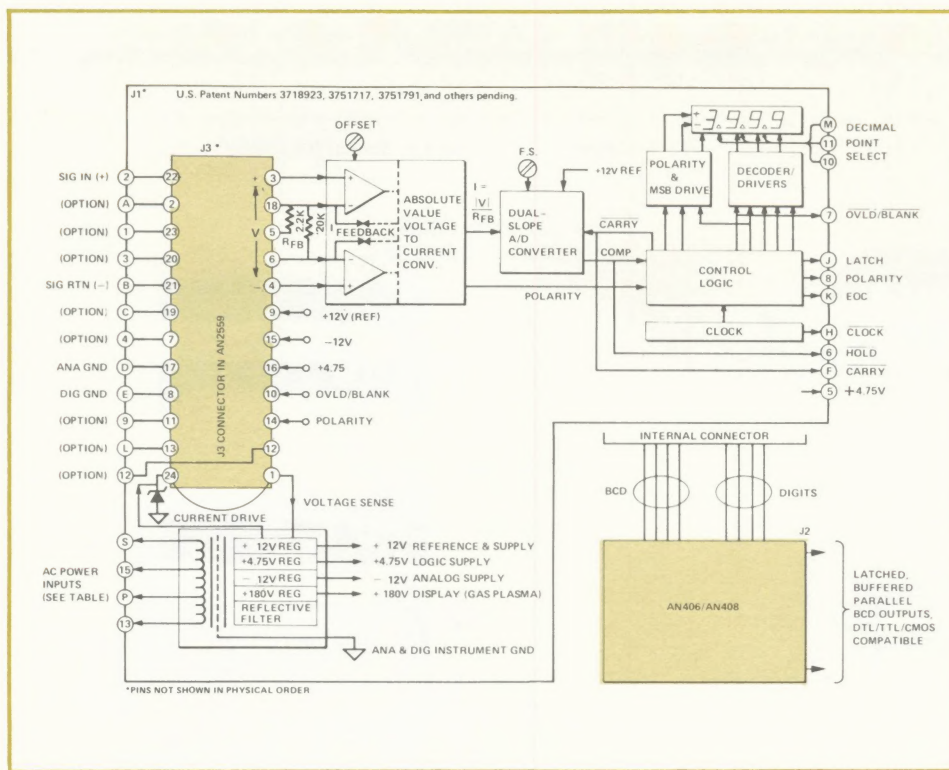
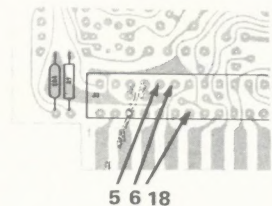

Figure 2. Simplified Schematic Diagram of AN2559.
Figure 6. PC-Board Scaling Connections
As shown in Figure 2, the AN2559 contains a floating true differential front end; an absolute-voltage-to-current converter; a dual slope ratio-metric, current-to-count integrating analog-to-digital converter; clock-driven logic control circuits, decoders, drivers, and displays; and regulated power supplies derived from secondary windings of the universal transformer.
Signal input to connector J1 is conditioned by arbitrary signal conditioning on the analog option card inserted in internal connector J3, resulting in a potential difference (V) at J3, Pins 3 and 4, connected to the non-inverting inputs of the differential input amplifiers. The conditioned signal input (V) develops a unidirectional signal current (I) whose magnitude depends on the value of the selected feedback resistance (R_{FB}), according to the simple Ohm's Law formula shown in Figure 2. The signal current linearly charges a high quality, low leakage, integrating capacitor during the signal integration phase of the dual-slope conversion. The current generation circuit also includes the polarity sensing for display.
With a 20,000 Ω feedback resistor (R_{FB}) connected as shown in Figure 2, the DPI is normally calibrated at the factory for a full-scale range of 4 volts/4,000 counts. A thermally tracking internal resistor (2,200 Ω) may be connected in parallel with the 20,000-ohm resistor by connecting pins 5 and 6 on J3. See Figure 6. The parallel resistance of 2000 ohms provides the user-selectable sensitivity of 100mV/1,000 counts (100 μ V/count).
To hold a displayed reading, gate a HOLD command (the comparator output shown in Figure 2) with the rising edge of EOC (available at J1, Pin K). Then, generate a DTL low level signal (HOLD). When applied to Pin 6 of J1, the HOLD signal will keep the last conversion displayed, while the DPI continues to update the measurement internally. When HOLD is removed, the next valid measurement is transferred to the display latches.